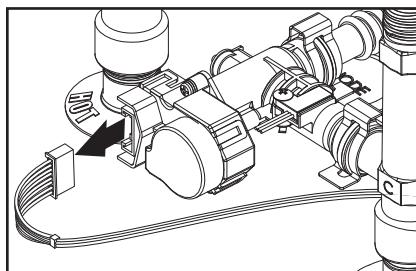

Figure 47 - Disconnect 8 Pin Wire Harness
- Disconnect the 8 pin wire harness located on top of Smart Valve as shown in Figure 47. Place wires aside in a safe location so they are not damaged.